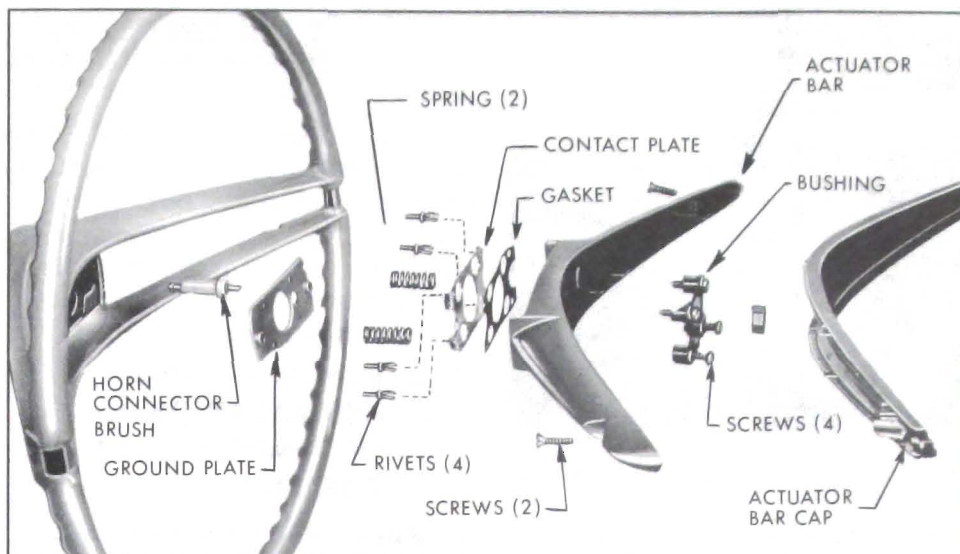

Figure 8-6—Deluxe Steering Wheel
2. On deluxe steering wheels, remove the actuator cap, actuator bar, springs and ground plate from wheel. See Figure 8-6.